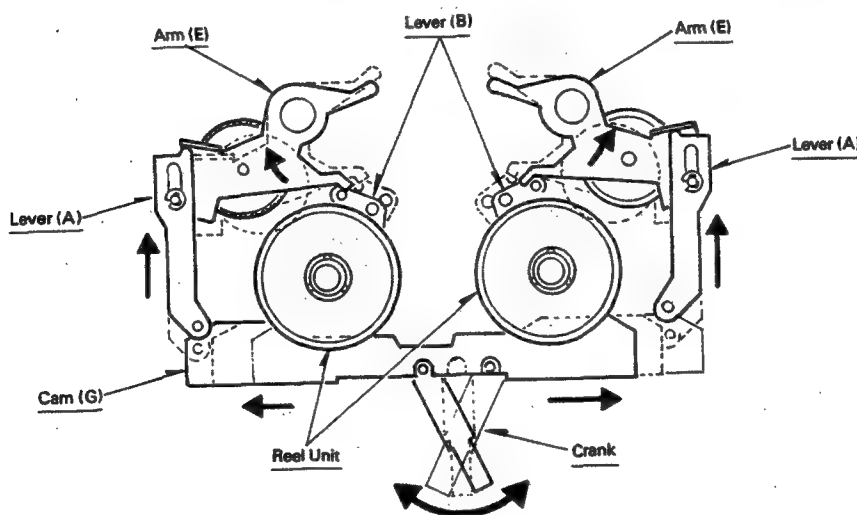

Fig. 19
- The left-right movement of Crank causes right-left movements of Cam (G). Lever (A) is pushed by the tapered sections at both ends of the upper side of Cam (G) (Fig. 19).
- Lever (A) causes Arm (E) to rotate and separate the idle gear on one side from the Reel Units, simultaneously making Lever (B) rotate and disengage Claws (A) and (B), which are designed to prevent the Reel Units from reversing (Fig. 19).